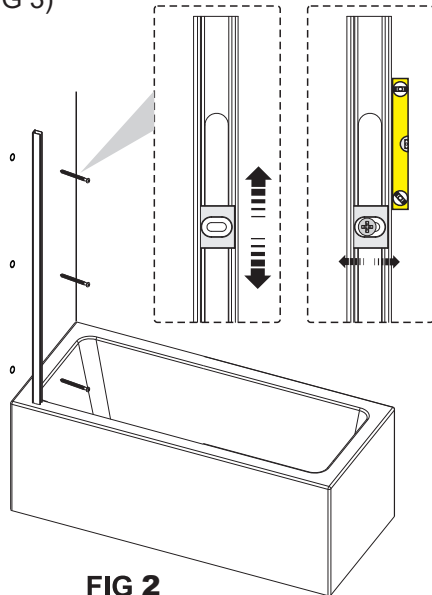
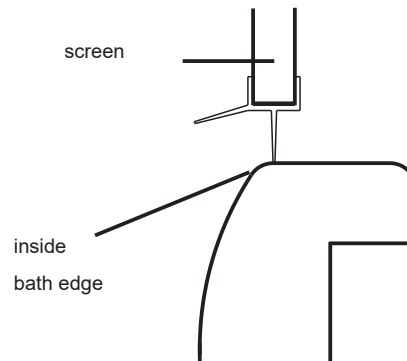

FIG 2
FIG 3
3. Fit the bottom clear seal **SP0LFCS** on to the bottom of the bathscreen **fig 3** .Apply silicone as shown in **fig 3A** firstly.
2. Ensure profile is plumb to the wall (FIG 2) and positioned to ensure the bathscreen will be on the inside edge of the bath. (FIG 3)